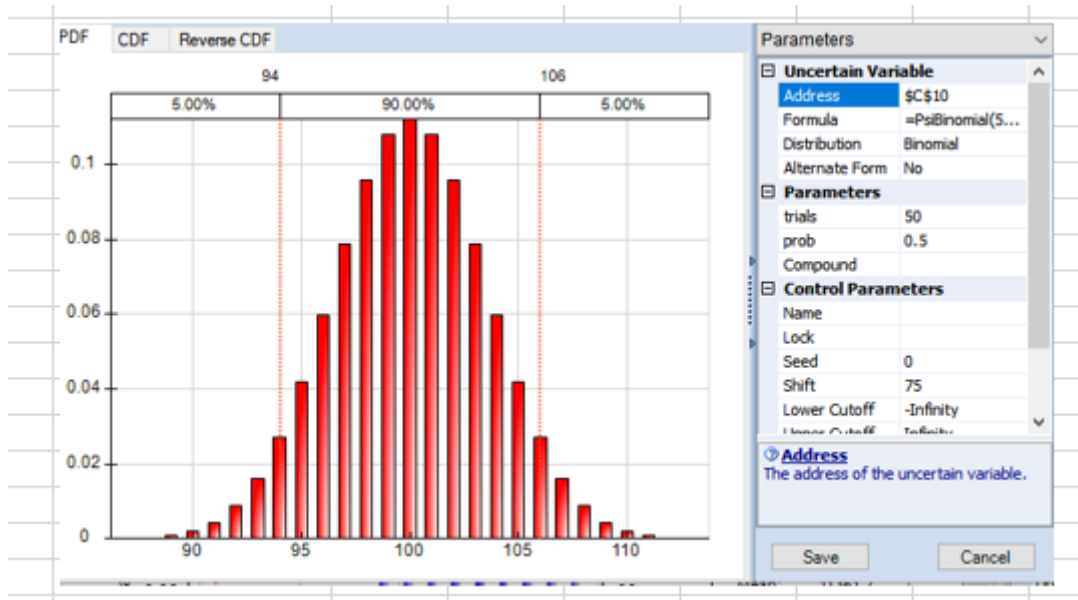

Figure 12: Hotel demand model
*The demand for rooms is assumed to have a binomial distribution with a shift of 75. See figure 12.*